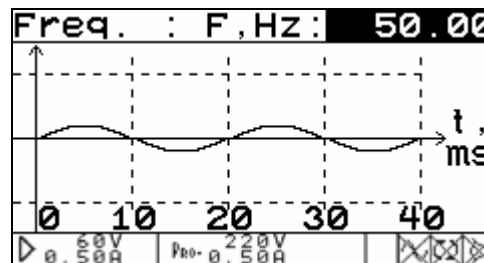

Fig. 4.8. Parameter setting window for signal frequency
-  — no monitoring of mains frequency is maintained at the moment. The Generator produces its output signals in accordance to the frequency specified by the “frequency” parameter (Fig. 4.8)).
The “Frequency” item, when enabled, opens the window (Fig. 4.8) where you can set fundamental frequency (i.e. frequency of the first harmonic) of the desired three-phase voltage/current system (☒). When the mains synchronization mode is enabled (▶), output frequency is determined by mains frequency. Otherwise (with “eye” icon), the Generator ignores frequency specification entered in this window.